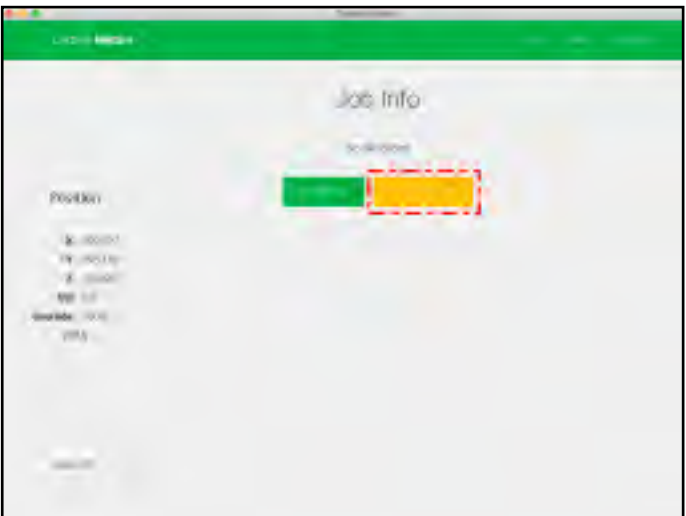

Figure 10-4
- 1. Click the yellow **Initialize Machine** button to home your Shapeoko Pro. See Fig. 10-4.